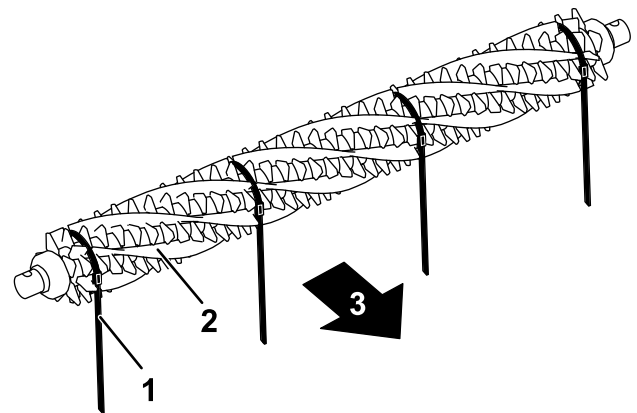

Figure 20
3. From 1 side of the groomer reel, slide a brush into each groove around the full length of the groomer reel (Figure 20).
Important: You must wrap the straps around the groomer blade and brush assembly in the primary rotating direction. Figure 20 shows the straps installed for forward rotation.